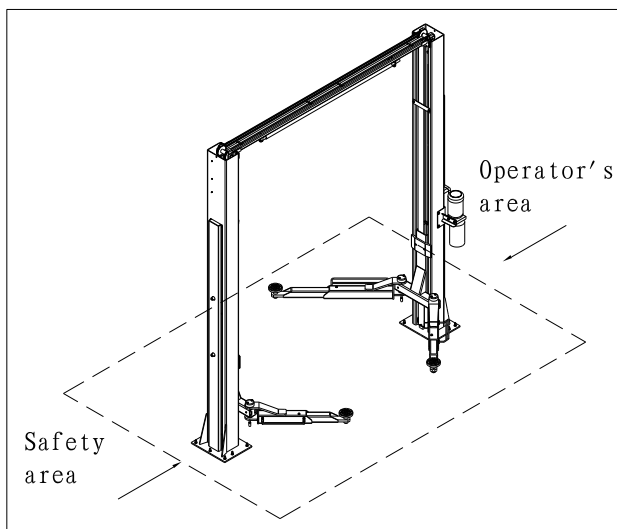

Fig. 9 Working Area
- ◆ People rest inside the safety area while the vehicle raising. **(Fig. 9)**